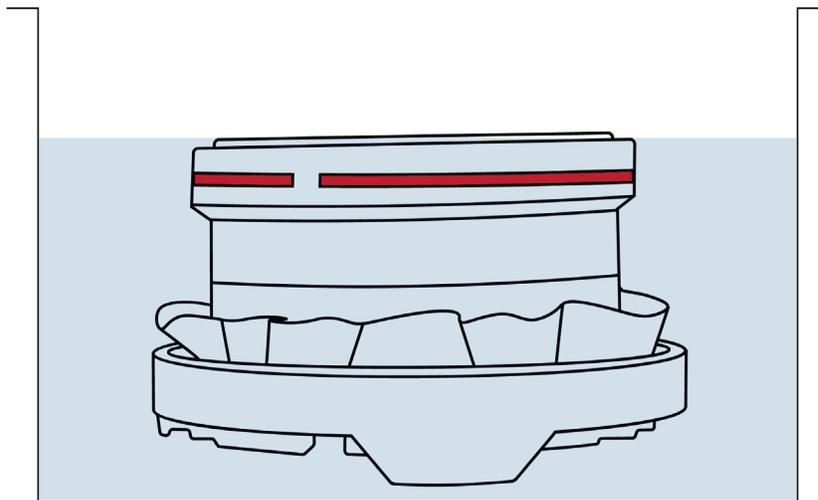

Figure 6 Saturate soil sample
8. Fill the pan with enough water to be just below the top of the sample ring (Figure 6).
9. Place soil sample in the water pan (Figure 6).